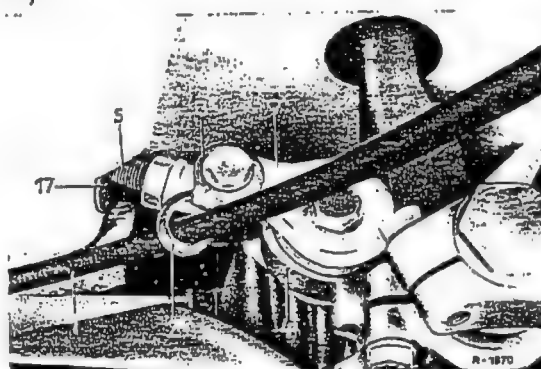

Fig. 42-19/2a
7. Loosen the hexagon collar nut (7) which secures the cable guide, remove the cables from the brackets (8) and detach them from the equalizer (2) (see Fig. 42-19/1).
8. During installation make sure that the rubber sleeves (6) sit properly on the collar of the hexagon nut (7) since otherwise dirt will get into the cable guides (Fig. 42-19/1).
Note: On Model 230 SL attach the right brake cable to the rubber eyelet (Fig. 42-19/2a).